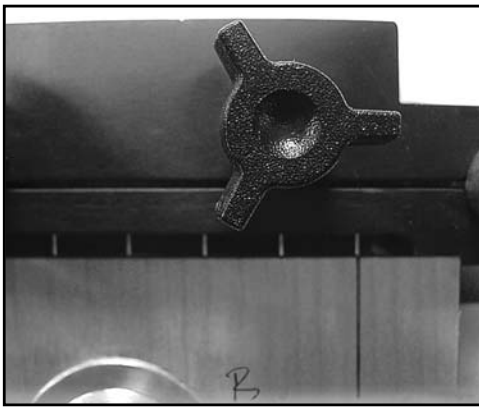

Fig. 10
12. Part "B": Leaving drill block in the right position, align pencil mark with white line on the far right and tighten the guide block knobs. (Fig. 10)